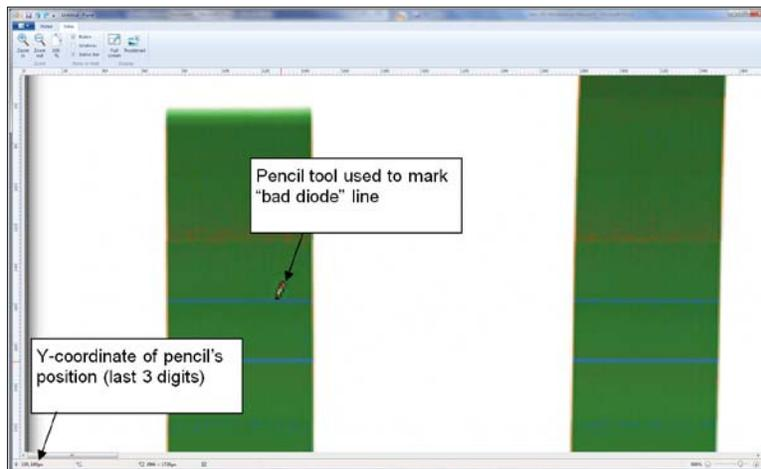

Figure 89: Identifying Lines on the Aluminum
- h. Use the Pencil tool to touch each noticeable (bad diode) line on the aluminum, by placing the point of the Pencil tool on the line. Note that as you touch each line with the tip of the Pencil tool, the y-coordinate of each line shows up as the last three digits of a six-digit number in the lower left corner of the Paint screen (See Figure 89).